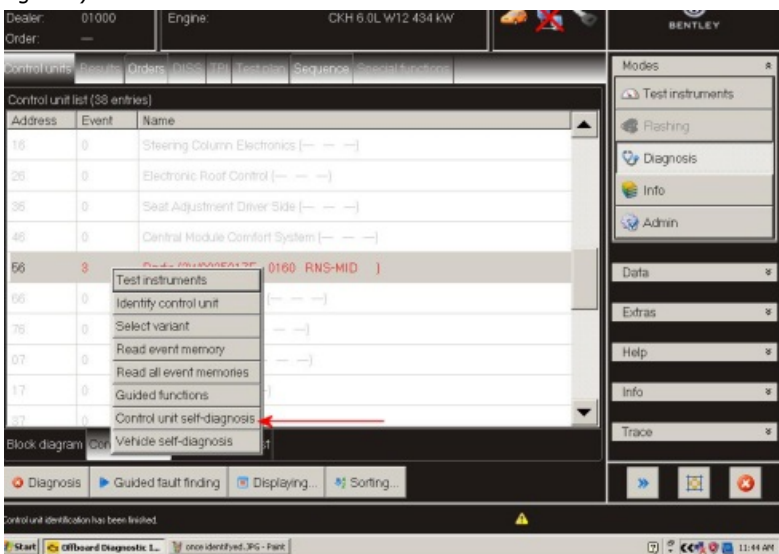

Figure 3
5. Once the control module has been identify by the diagnostic program touch, hold then release the selected box again to reveal drop down menu this time select *Control unit self – diagnosis* (see Figure 3)